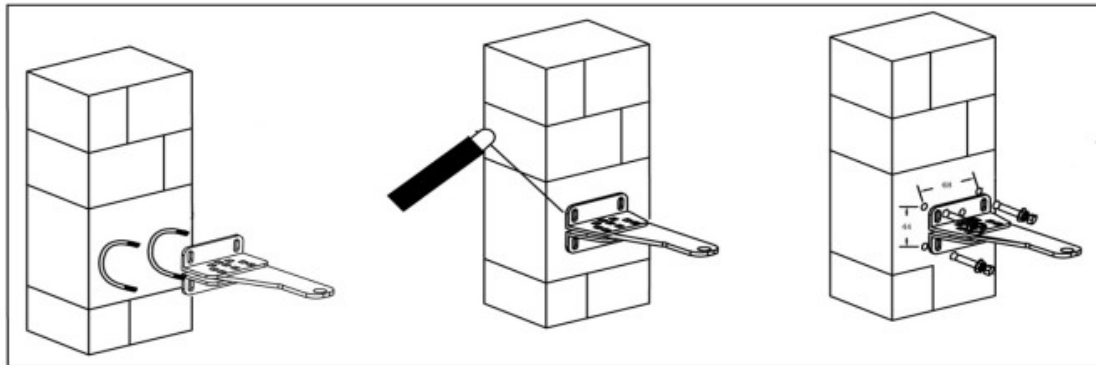

Figure 5
1. **Construction Drill and Bolts, Figure 5 right:**
2. **Construction Drill and Weld, Figure 5 middle:**
3. Precast U Bolts, Figure 5 left: